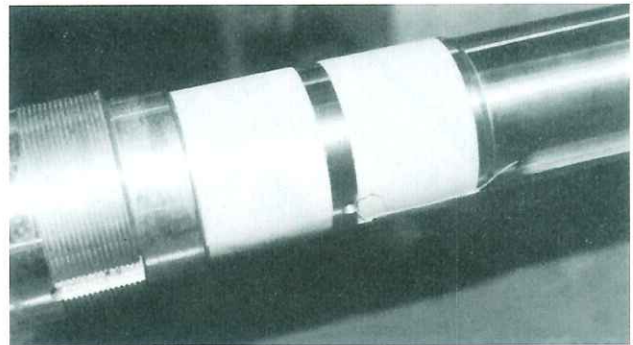

Fig. 96 Shaft Protection
1) Be sure that any problems with the rotors have been remedied before installation. Scratches, even small ones, on the bearing and shaft seal surfaces should be carefully polished with fine emery paper. Before installing the rotors, cover the seal surface of the shaft with cloth tape to protect it (Fig. 96).